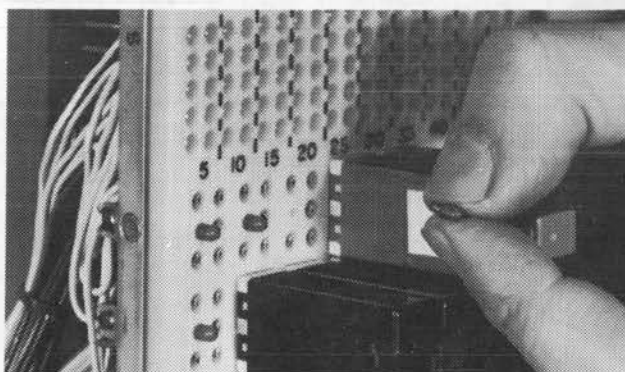

Figure 31
- 10.08 The red colored circuit designation pin is used to mark the position of a special circuit connector module (red) when the connector module is removed. The pin fits into the blind hole opposite the ground pin terminal. (See figure 31.)